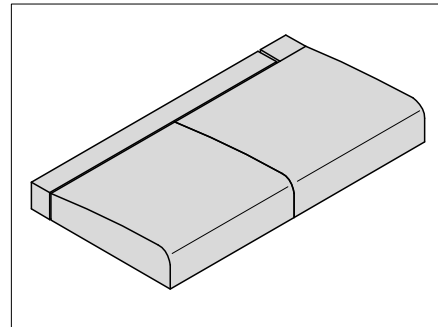
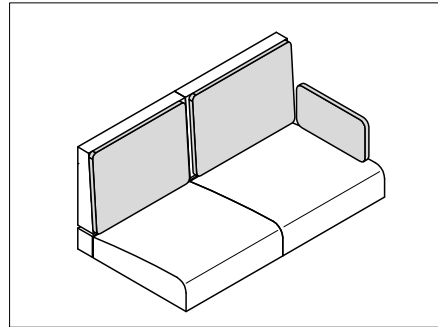

Fig. 215 Positioning seat cushions
Fig. 217 Cushion for back cushions
- Lay on the seat, backrest and additional cushions as shown in Fig. 215 to Fig. 217.